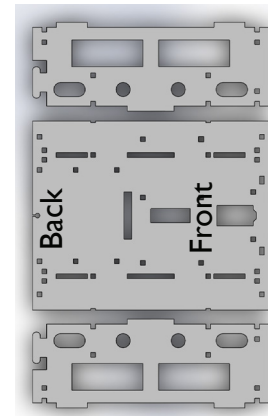

Figure 1
1. Take one of the largest acrylic chassis pieces to use as the underside of the robot. The two medium-sized pieces are the sides. With the circular holes on the sides facing down, place the sides into the slots in the bottom piece. (Figure 1)